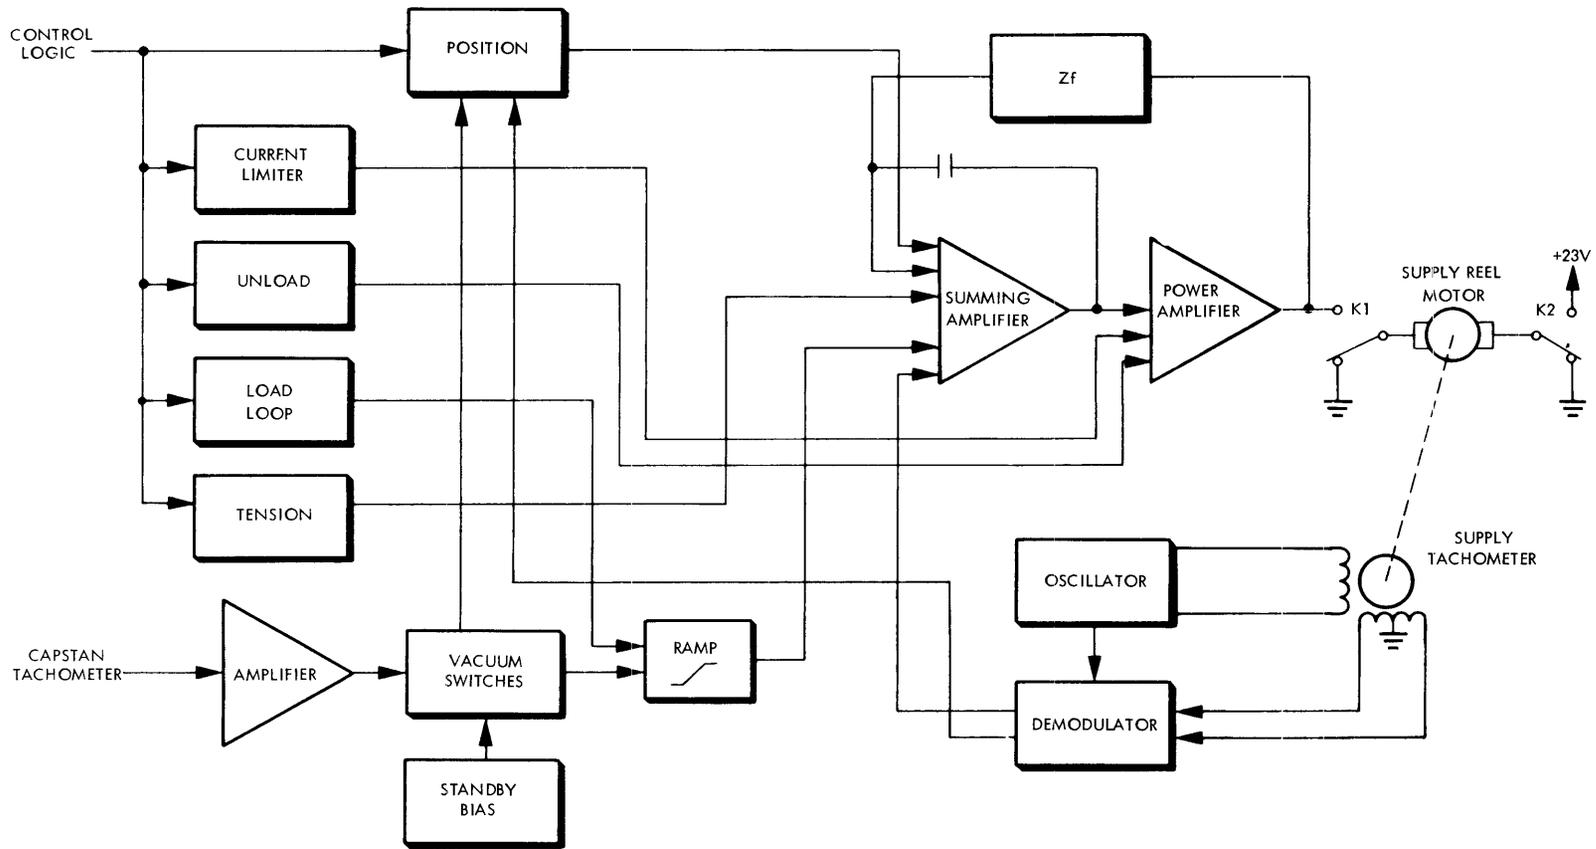
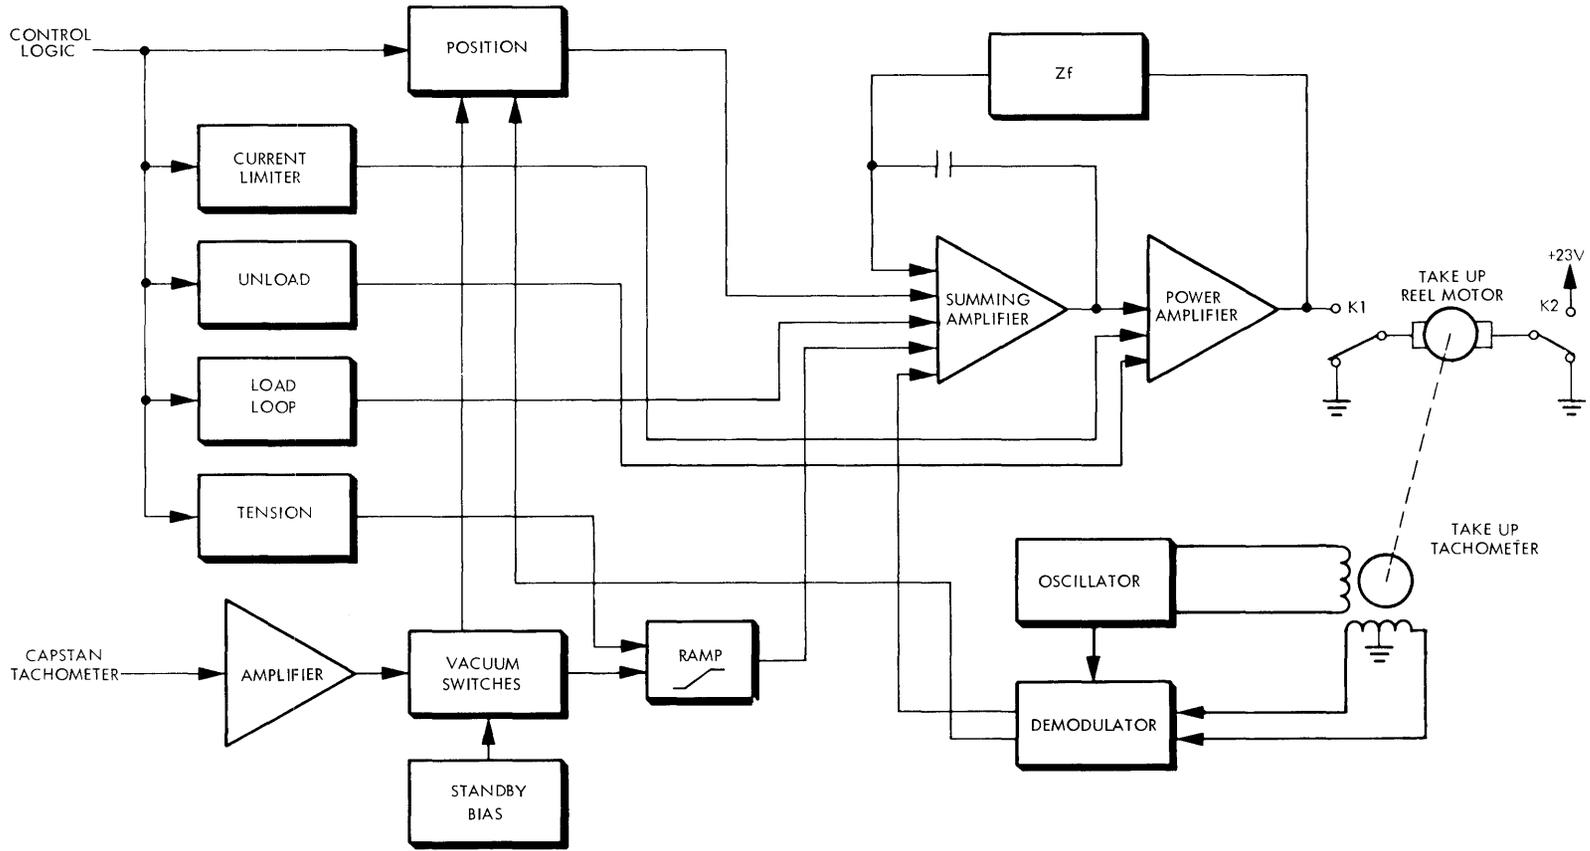

Figure 4-5. Supply Reel Servo Block Diagram
Figure 4-6. Take-up Reel Servo Block Diagram
The functional blocks of the supply reel servo and the take-up reel servo are shown in Figures 4-5 and 4-6, respectively. Both supply and take-up operation of the servos are basically the same except that auxiliary inputs such as Load Loop and Tension are injected at different points.
Referring to Figures 4-5 and 4-6 it can be seen that the Capstan Tachometer provides a reference input to each reel servo. The Vacuum Switches initiate an input signal to the Ramp Generator. The output of the Ramp Generator is supplied to the Summing Amplifier whose output controls the Power Amplifier and subsequently the Reel Motor.
Auxiliary circuitry is provided to accomplish loading tape into the vacuum chamber. This circuitry receives its commands directly from the Control Logic. The functional blocks used for loading are the Current Limiter, Unload, Load Loop, and Tension, shown in Figures 4-5 and 4-6.
- (1) When the LOAD/RESET control is depressed, a Tension (NTNA) signal is received from the control logic and is converted to the appropriate signal level by the Tension circuitry.
- (2) The Tension signal to the supply servo (Figure 4-5) provides a constant current input to the Summing Amplifier.
- (3) The Tension signal to the take-up servo (Figure 4-6) provides a constant current to the Ramp circuitry which, in turn, provides a constant current to the Summing Amplifier.
- (4) Concurrent with the Tension signal, the Current Limit (CURLIM) signal is supplied to the Power Amplifier. This signal prevents saturation of the Power Amplifier from the application of the constant current into the Summing Amplifier.
- (5) The current into the two summing amplifiers (supply reel and take-up reel) provides positive tape tension by driving the supply and take-up reels in opposite directions.
- (6) A few seconds after the tape is tensioned the Load Loop circuitry is activated.
- (7) The Load Loop (NLDLOOP) signal injects a constant current into the Ramp generator and hence the Summing Amplifier on the supply reel servo (Figure 4-5) and also directly into the Summing Amplifier on the take-up reel servo (Figure 4-6).
- (8) The current supplied to the Summing Amplifiers causes a voltage inversion in the Power Amplifiers which forces the reel motors to reverse, and simultaneously load, tape into the vacuum chambers. The Tension signal is removed when Load Loop is applied.
- (9) The Load Loop and Current Limit signals are removed when vacuum interlock is accomplished.
The same auxiliary circuits employed to load tape into the vacuum chambers are used during an unload operation. Refer to Figures 4-5 and 4-6.
To stabilize the tape loop in the vacuum column during standby operation (i. e., capstan stationary) an auxiliary circuit is used in the reel servos. This circuitry is represented by the Position block in Figures 4-5 and 4-6. The position control circuitry senses tape position information from the tachometers and vacuum switches when there is no capstan motion. The Demodulators recognize the tachometer positional information and produce a current nulling effect at the Summing Amplifiers.
An 800-Hz oscillator, shown in Figures 4-5 and 4-6, provides the ac reference signal to the reel tachometer field windings. When the tachometer is rotating, an 800-Hz secondary signal is produced from the tachometer which is amplitude modulated according to the speed of the tachometer. A quadrature phase detector circuit is used to sense this amplitude variation. Use of this circuit alleviates the offset problem associated with bidirectional speed detection. Normal amplitude modulation detection would detect out-of-phase, as well as in-phase, signals leading to zero crossover distortion. The velocity signal from the quadrature phase detector is not rectified but the low bandwidth of the reel servo limits the frequency response and reacts to the averaged amplitude information. Amplitude modulation rectification is used, however, to detect positional information from the tachometer.